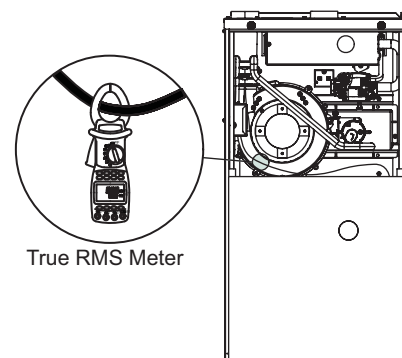

Figure 56. Check Motor AMP Draw
3. Check amp-draw using a true RMS meter on the blower motor with blower access panel in place. See **Figure 56**.